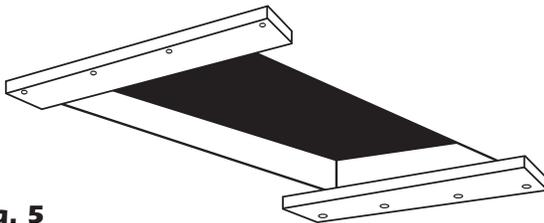

Fig. 5
Step 3– On the ceiling side of the rough opening, nail two 1" x 4" temporary slats to hold the stairway in the rough opening. (Temporary Boards Not Supplied By American Stairway.) Each slat should extend beyond the ends of the opening and extend approximately 1/2" into the rough opening to form a ledge. The slats should be nailed securely enough to hold the weight of the stairway (See Fig. 5).